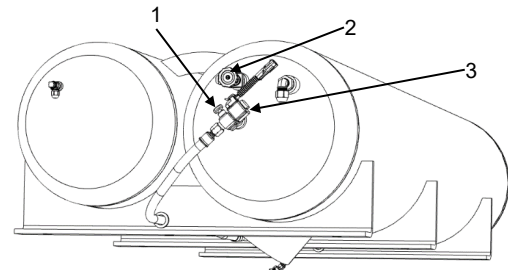

Figure 1:
3. *If removed:* Connect and tighten Fuel Supply and Fuel Return Lines at Fuel Supply (1) and Fuel Return (2) Manual Shutoff Valves. Refer to Fuel and Supply Return Line Replacement and Fuel System Torque & Tightening Specifications. Figures 1 & 2
4. Slowly turn Fuel Supply Manual Shutoff Valve (1) and Fuel Return (2) Manual Shutoff Valve knobs counterclockwise to open. Figures 1 & 2
5. Disconnect Fuel Supply Solenoid (3) Electrical Connector. Figures 1 & 2
- Energize Fuel Supply Solenoid (3) with twelve (12) volts using a Power Probe® or similar tool. Figures 1 & 2. **NOTE:** An audible “click” should be heard indicating the solenoid has opened.